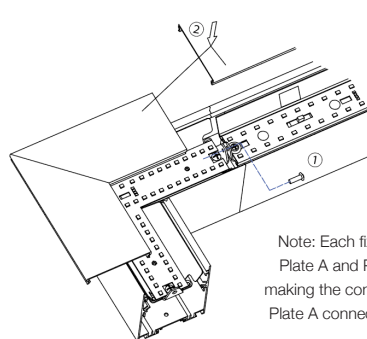

Fig. 18
4. Reattach the LED reflector strips and screw them back onto the plates. (Fig. 18)
5. Screw the end plates from the hole on plate A (flat top) to the hole on plate B (round top). (Fig. 18 & 19)